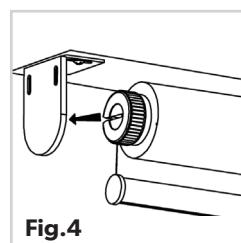

Fig.4
7. Install the left side by sliding the tab on the left bracket into the slot of the plastic component (Fig.4)